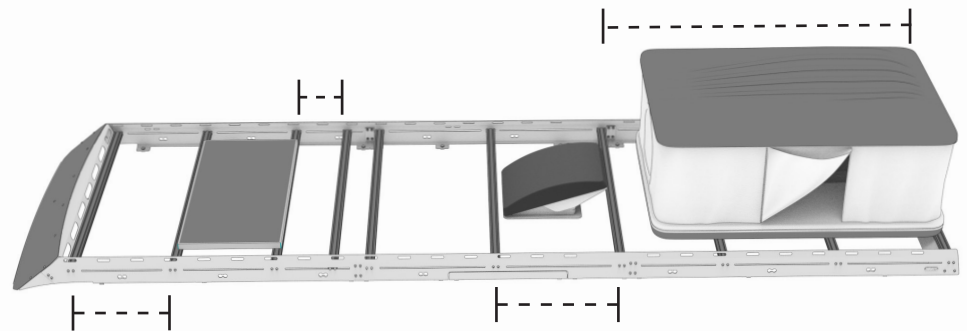

FIG 8
3.1 Layout Crossbar Locations: Position the crossbars in your desired locations, loosely threading in the **1/4-20" Flange Head Screws** to hold in place (**FIG 8**).